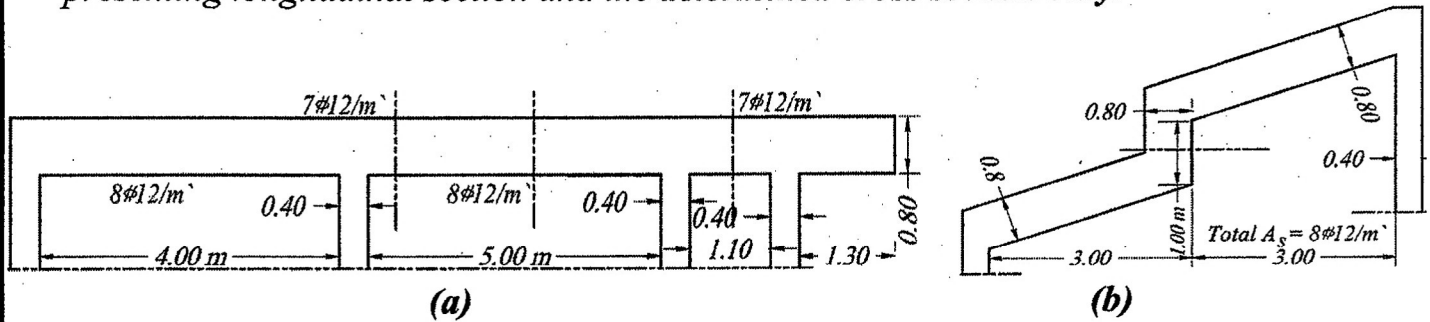

Fig. 2
- b) The given longitudinal sections are for a two beams with given cross sections (A_c) and steel reinforcement (A_s) shown in Fig.2. It is required to draw the reinforcement details presenting longitudinal section and the determined cross section only.